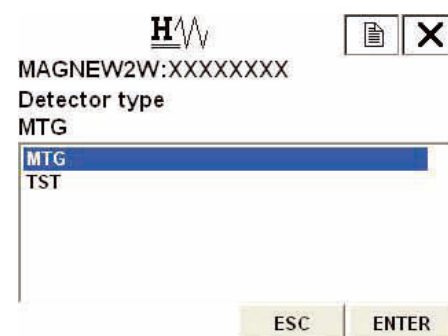

Figure 7-20
Figure 7-20 will then be displayed.
2. Once the display as shown in Figure 7-20 appears, move the arrow key up or down to select a detector type. After making a selection, press F4 (ENTER). If F3 (ESC) is pressed here, the selection will be canceled and the display will return to the Detector config menu.